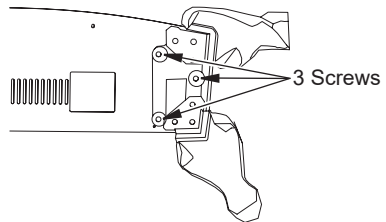

Figure 3 - Installing Legs
2. Carefully lay heater on its back. Attach legs with hardware provided (see Figure 3)